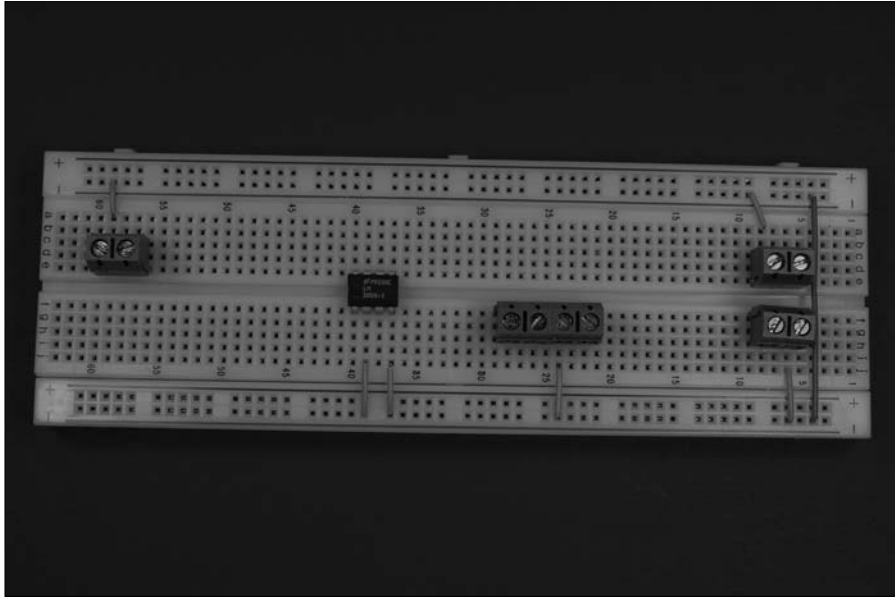

Figure 6-6:
2. Insert wires to connect the IC and the terminal blocks to the ground bus and insert a wire between the two ground buses to connect them, as shown in Figure 6-6.